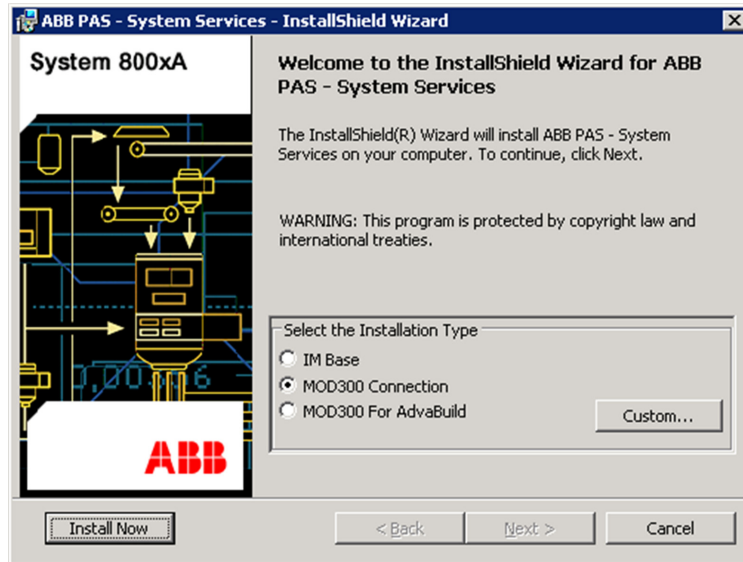

Figure 43. Welcome Dialog Box for ABB PAS System Services
1. The InstallShield Wizard for ABB PAS System Services dialog box appears, as shown in Figure 43.